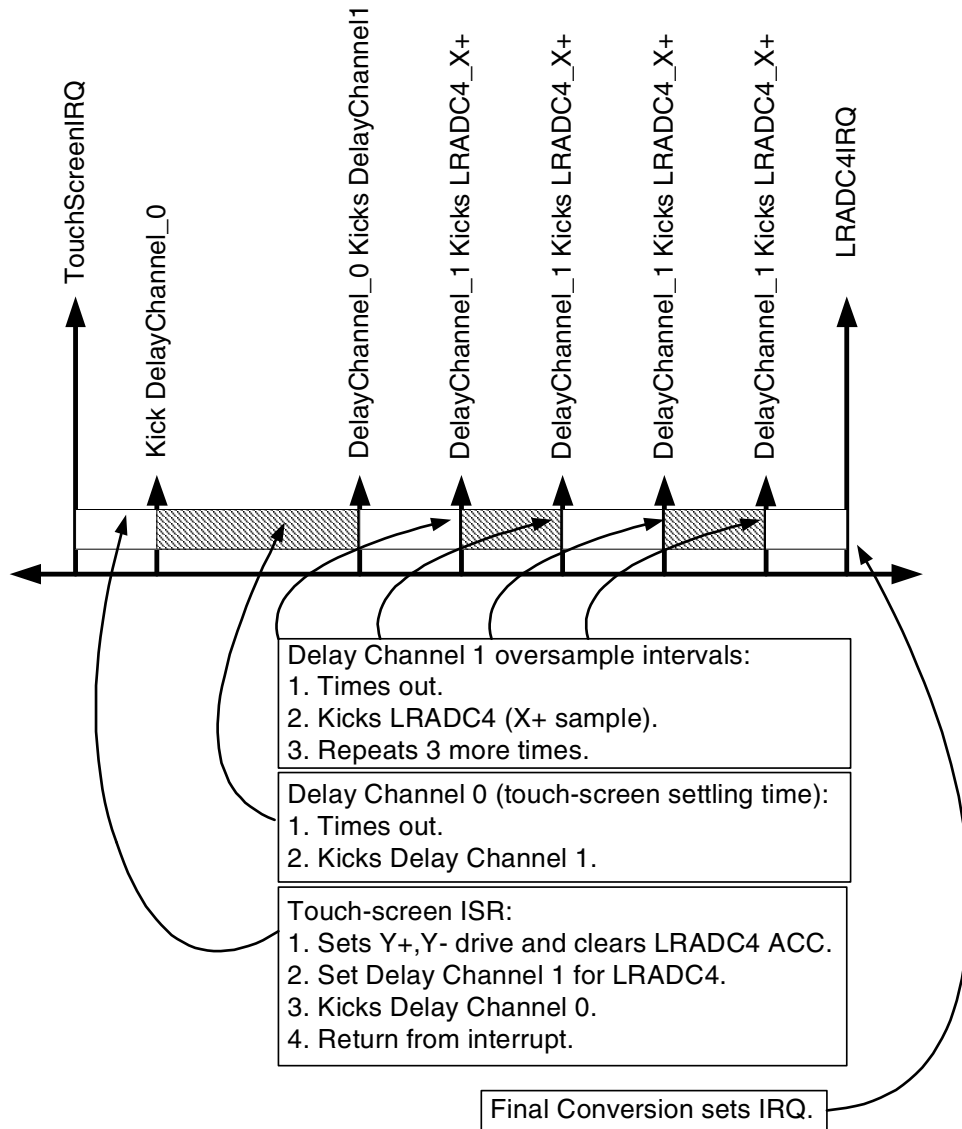

Figure 33-3. Using Delay Channels to Oversample a Touch-Screen
- Delay Channel 0 is set to delay 1 ms with LOOP\_COUNT = 0, i.e., one time. Its TRIGGER\_DELAYS field is set to trigger Delay Channel 1 when it times out. The ISR routine kicks off Delay Channel 0 immediately before it does its return from interrupt. Another interrupt (LRADC4\_IRQ) is asserted once the entire 4x oversample data capture is complete. A sample timeline for such a sequence is shown in Figure 33-3.